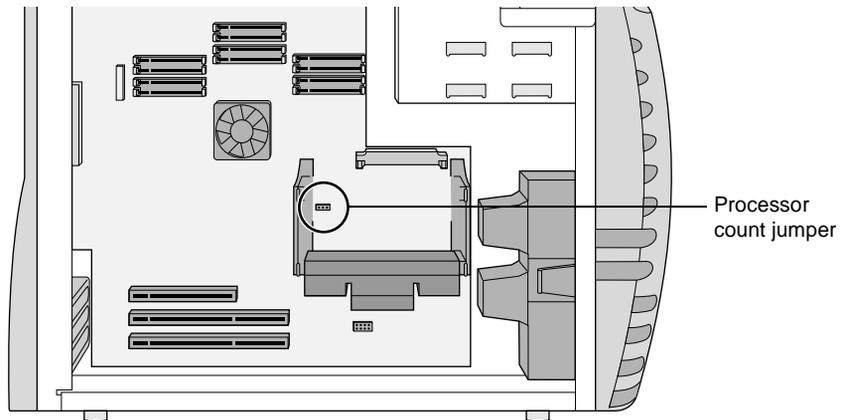

Figure 6-2 Processor Count Jumper
Table 6-1 shows the correct jumper position for the number of processors. Figure 6-2 shows the location of the processor count jumper in the system.
- Make sure the processor count jumper is installed on the two rightmost pins (Figure 6-2).
10. If you installed a processor terminator in the top slot, make sure the processor count jumper is on the two leftmost pins. (See Table 6-1 for the correct jumper position and Figure 6-2 to see the location of the jumper on the system board.)